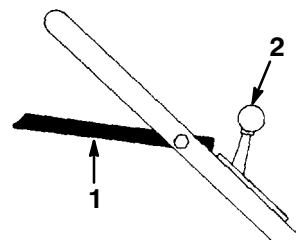

Figure 8
The blade control bail and the throttle control are on the upper handle as shown in Figure 8.
3. Move the throttle control to the  (*Choke*) position (Fig. 8).